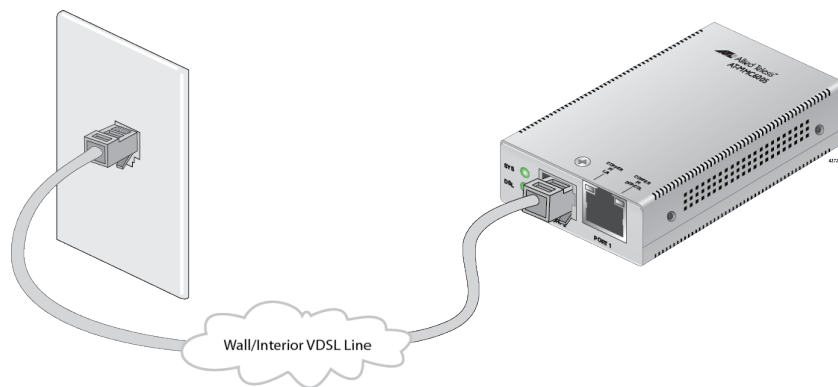

Figure 18. Provider Unit to Wall Plug or Interior VDSL Line in Building
2. Connect the VDSL Line port on the Provider unit to the VDSL wall jack or the building VDSL line in the building with either a phone line for the MMC6005 or a coax cable for the MMC6006 as shown in Figure 18. This connection allows the Provider unit to communicate directly with the Subscriber unit.